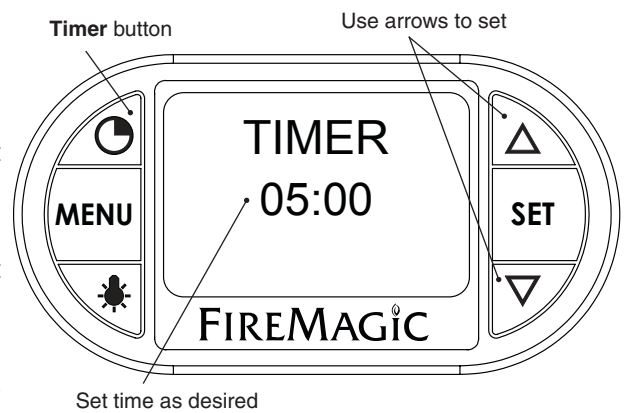

Fig. 31-4 Timer screen
1. Press the timer button. Use the arrows to set the desired amount of time (see Fig. 31-4.)